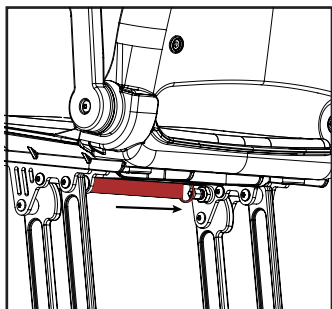

Figure 9
1. Pull the Seat Strap: Stand behind the seat and gently pull the strap located under the seat base to release the locking mechanism(see figure 9).